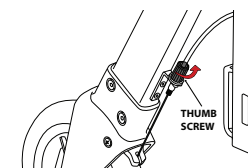

FIGURE 5
5. Twist Thumb Screw counterclockwise to increase brake resistance; twist clockwise to decrease resistance as shown in FIGURE 5.